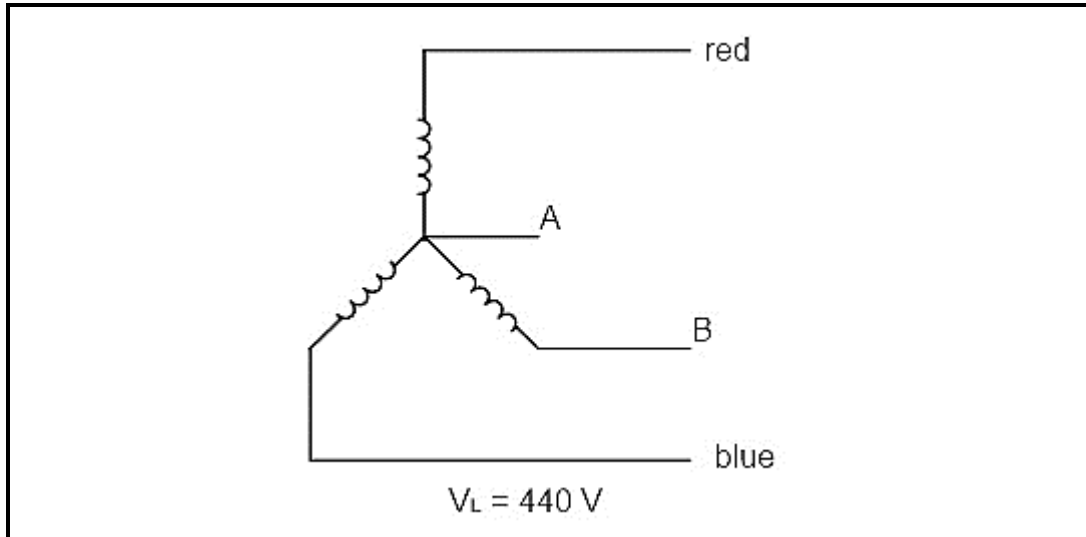

FIGURE 4.2
4.2 Refer to FIGURE 4.2. below and answer the questions that follow.
4.2.1 Identify the system shown in FIGURE 4.2. (1)